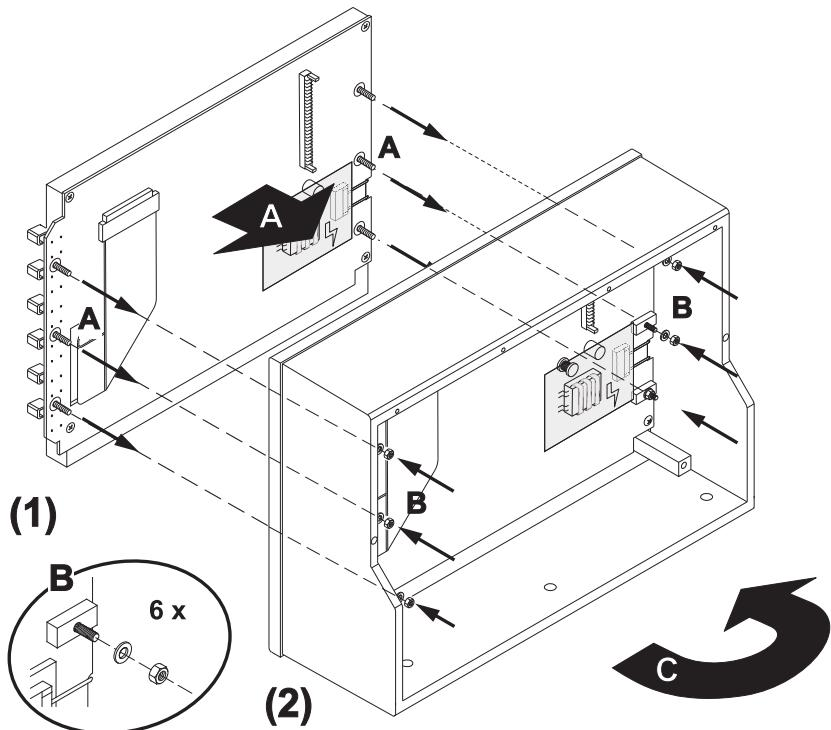

Fig. E 7-7: Placing and fastening the new mounting unit
- Now place the new mounting unit with display, pcb, keys and inverter (spare part no. 129691) carefully from the **front side** into the case (A). Place the threaded bolts of the pcb exactly into the holes of the holder bases of the case. Thereby carefully take notice of the exact adjustment. Check the correct placement of the display pcb and fasten it with the six washers and nuts (B). Then horizontal rotate the unit in opposite direction (C). (Fig. E 7-7)